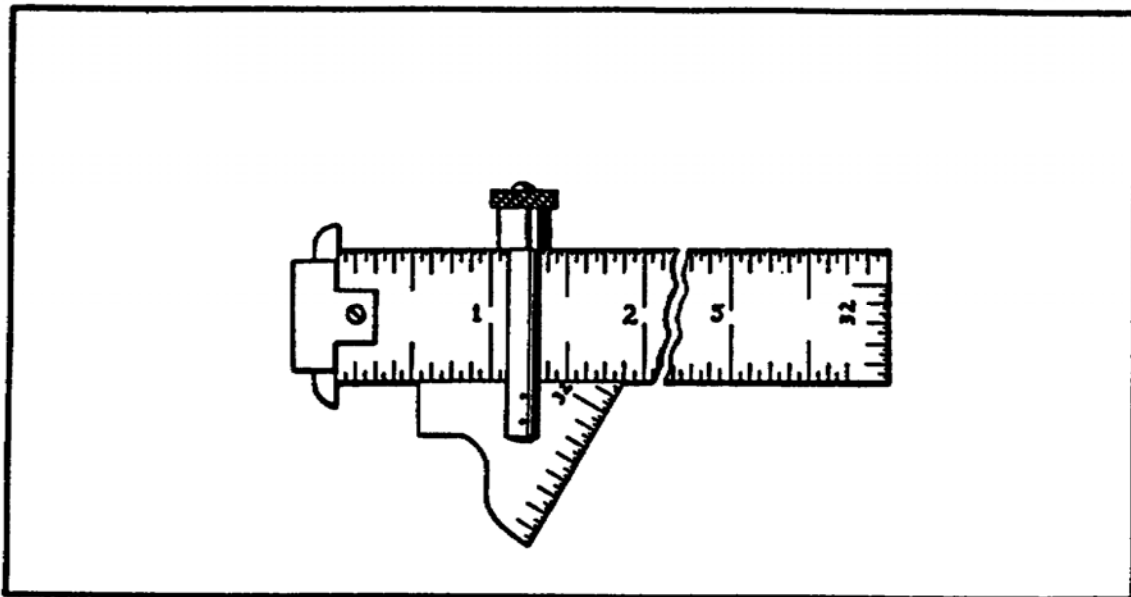

FIGURE 203. DRILL POINT GAGE.
h. *Types of Drill Point Gages.* The drill point gage (figure 203) consists of a 6 inch hook rule with a 59° head that slides up and down the rule. The sliding head can be locked at any position on the rule. The sliding head is graduated in 1/32 inch.